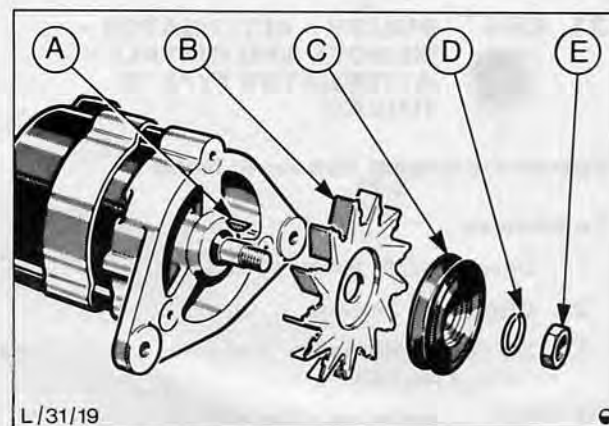

Fig. 58. Fan, pulley and associated components
32. Refit spacer, key, fan, pulley, washer and retaining nut, Fig. 58.